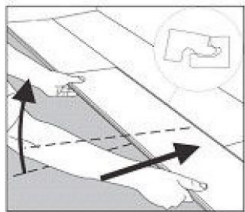

Figure 3
11. Position the first plank of the second row by angling it up slightly, pushing forward and interlocking the side tongue (**Figure 3**). Slide the plank to the right to align the edges of the end joint.
14. Install the remaining planks and rows in the same manner (**Figures 3 & 4**).